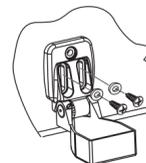

Figure 7
- Align the transducer assembly with the drilled holes in the transom (Figure 7).